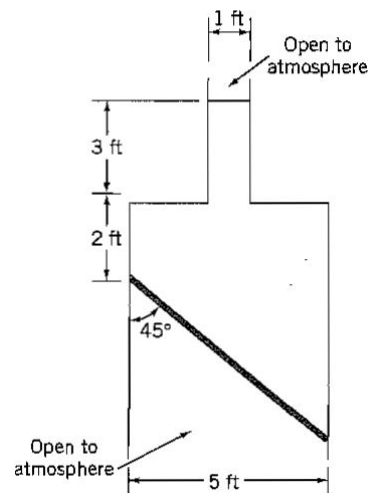

Figure P2.90
2.90 A certain volume of water is contained in a square vessel shown in Figure P2.90. Where the sealing edges of the inclined plate come into contact with the vessel walls, the reactive forces are zero.